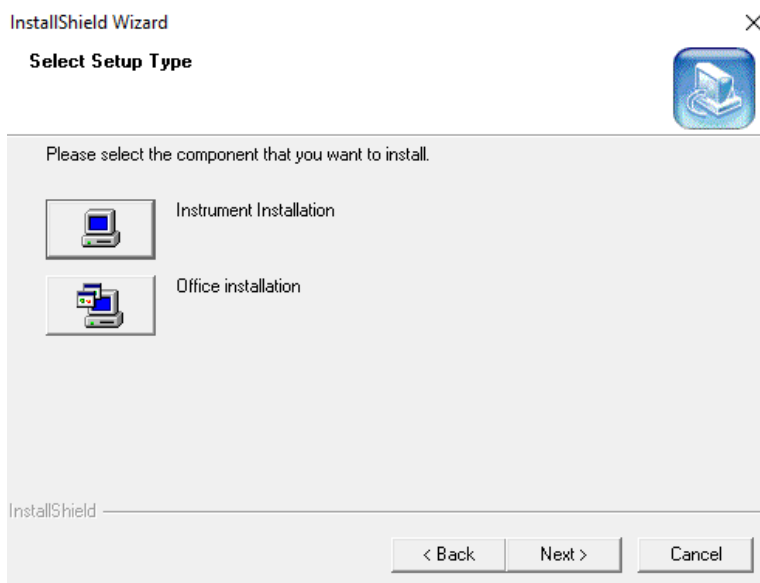

Figure 3-6. Isodat installation - Instrument Installation
9. In the **Setup Type** options dialog, select **Instrument Installation**, see Figure 3-6.